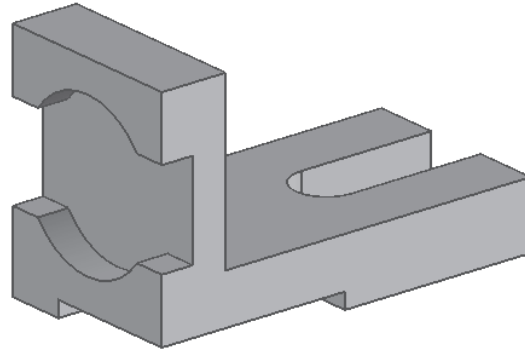

Figure 4-75 Model with the fourth feature
6. Hide the sketch. The model with the cut feature is shown in Figure 4-75.